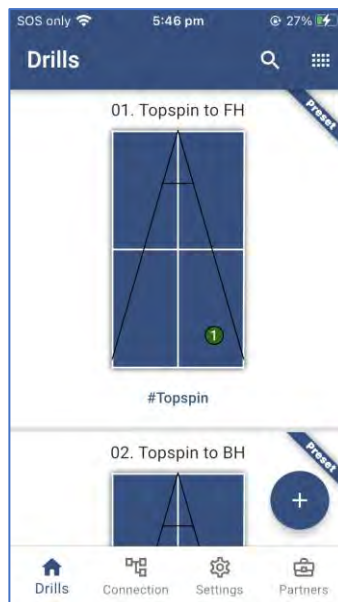

Figure 2-17
2.2.1 Drills Main Screen (Figure 2-17)